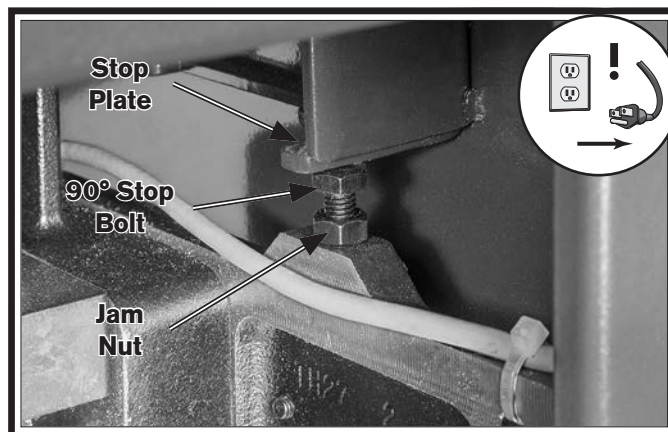

Figure 119. 90° Stop bolt location.
5. Open motor access cover, loosen jam nut shown in **Figure 119**, adjust stop bolt up or down according to how far off blade was from 90°, then repeat **Step 3** until blade stops at 90°.